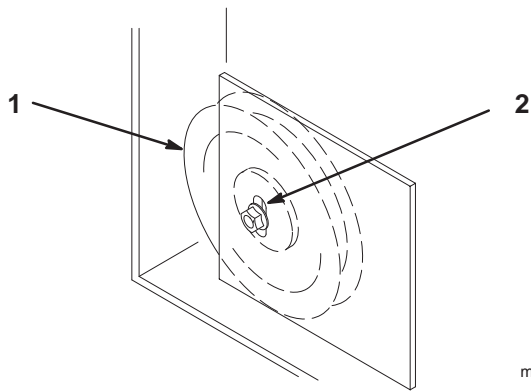

Figure 63
7. If an adjustment is required, loosen the fixed idler on the right support plate and move it up or down in the adjustment slot (Fig. 63). To relieve the belt tension, lift up on the spring loaded idler.